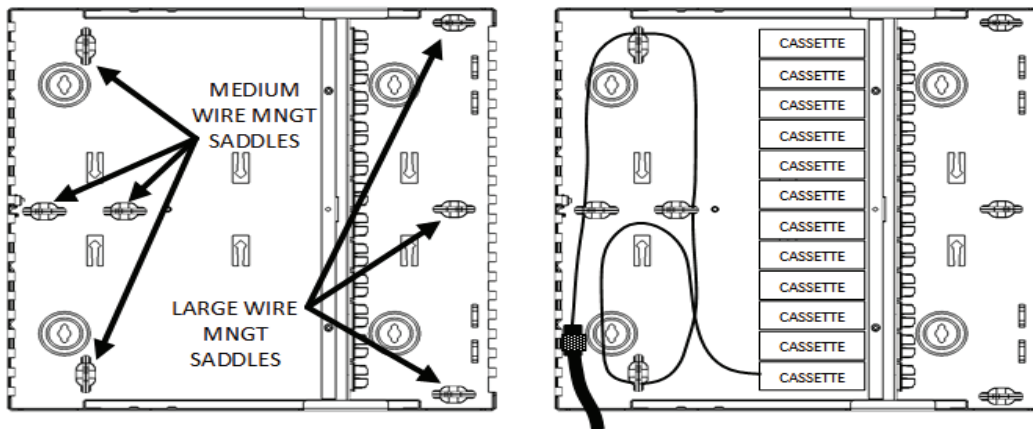

Figure 3
7. Using the cable management saddles, route the breakout fiber legs to the patching or termination point, as shown in the configuration drawings (Figures 3 to 9).
When using Cassettes, configure the Wire Management saddles and route cabling, as shown in figure 3.